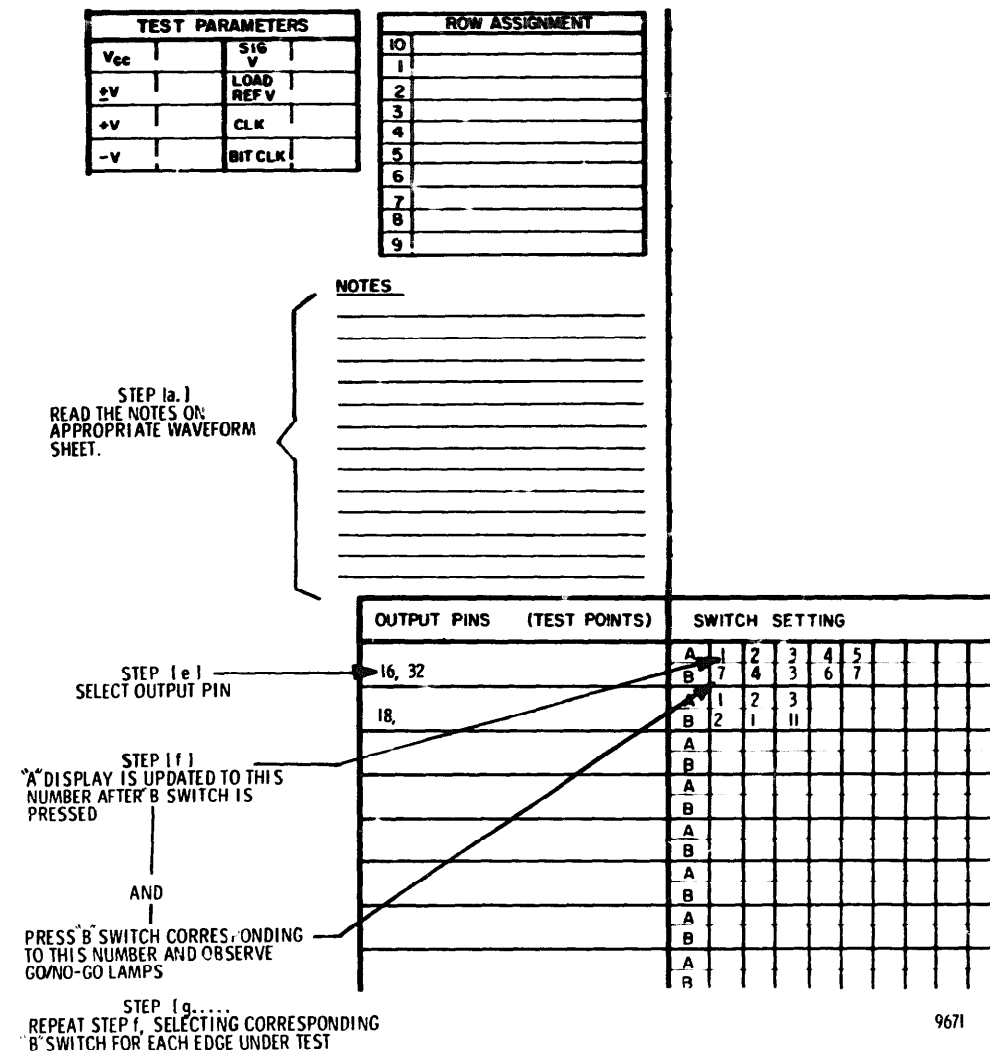

Figure 3. Model ICT-103 Waveform Sheet Example
e. Select the output pin to be tested on the front panel IN/OUT SELECTOR switches (S2 and S3). Figure 3 shows a typical example of an output pin (pin 16) and its location on the waveform chart.
g. Press the WAVEFORM TEST "B" switch corresponding to the first number adjacent to SWITCH SETTING B (figure 3) which corresponds to the selected output pin (switch number 7 in this example). WAVEFORM TEST display "A" changes to (01).